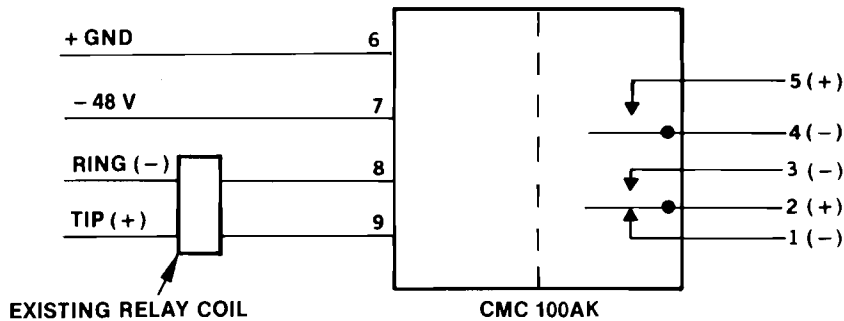
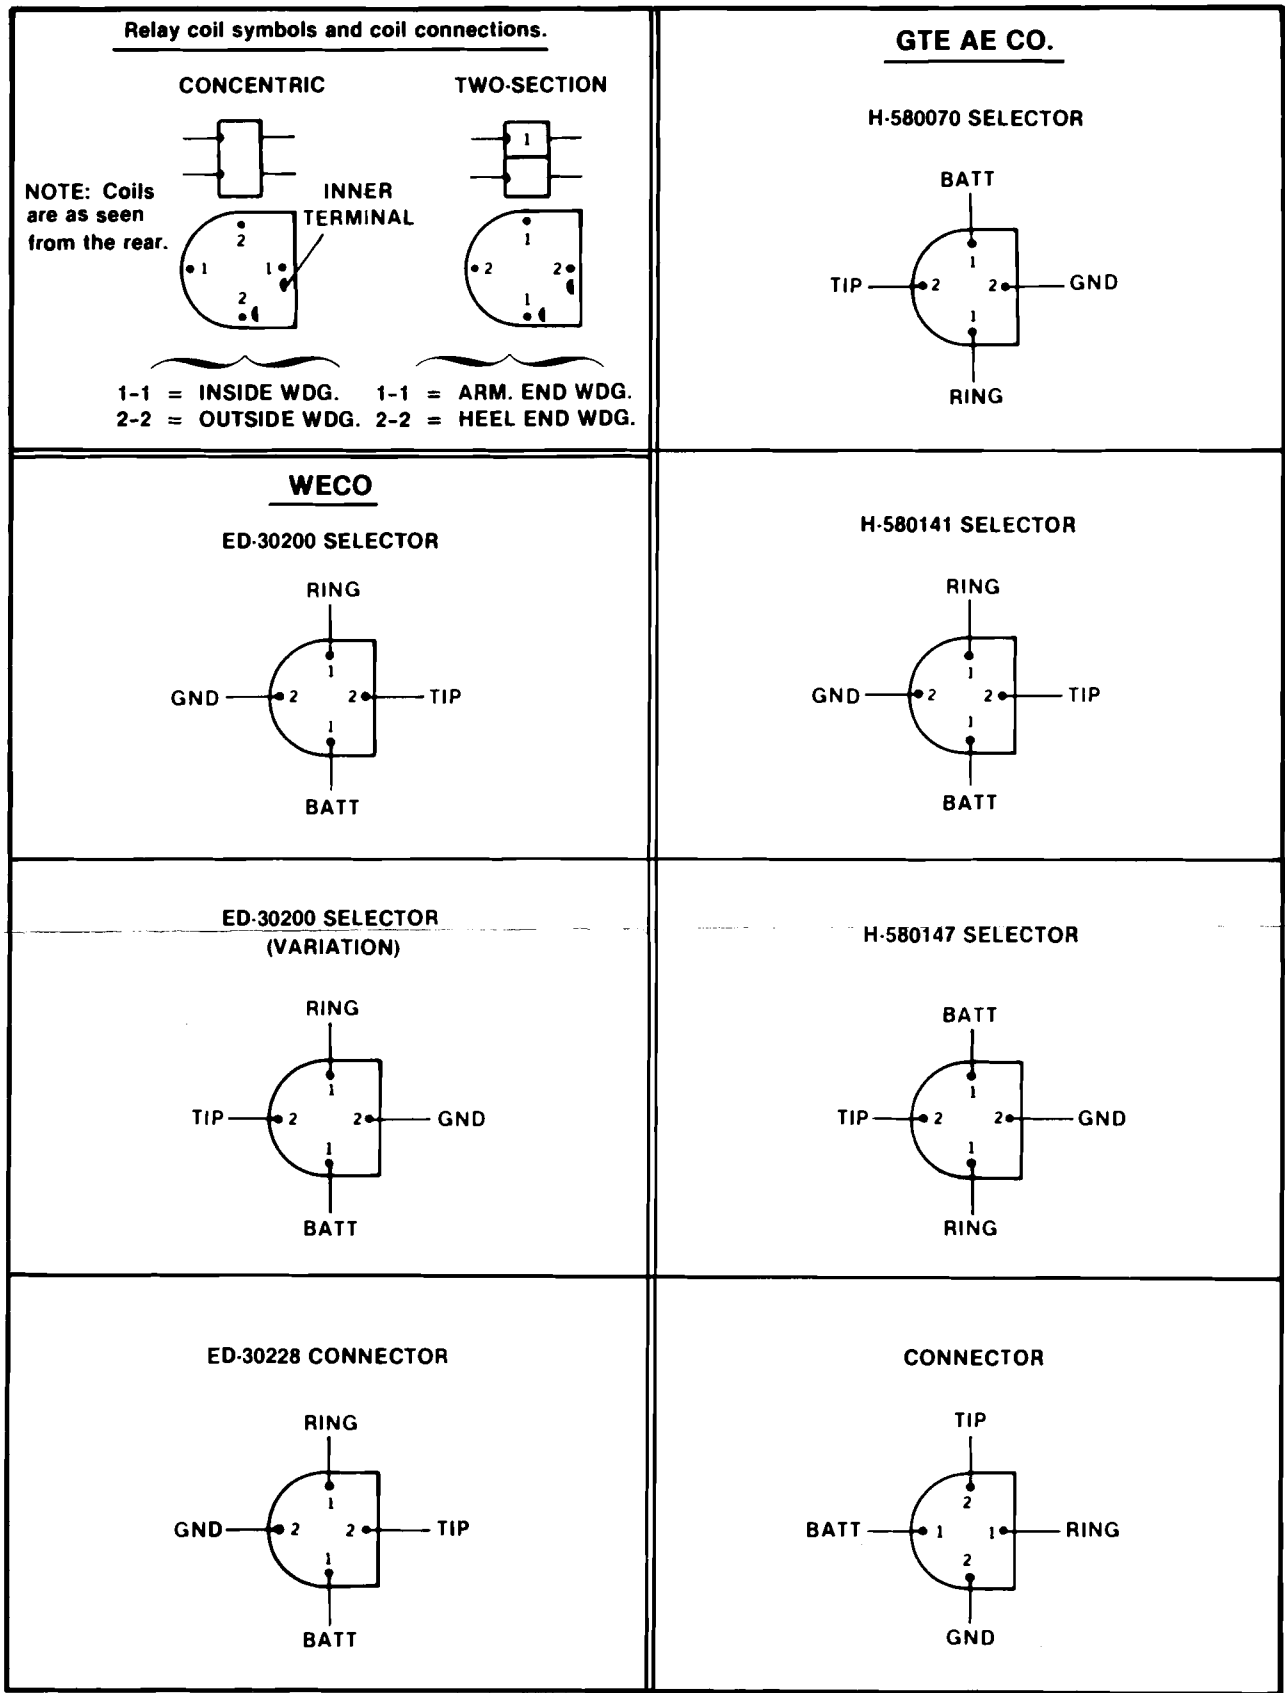

Figure 2 Connecting the CMC 100AK Solid-State Relay
Figure 3 Typical Selector/Connector "A" Relay Wiring.
- (5) Connect the Solid-State Relay coil wires as follows (see Figure 2):
- (6) Connect the Solid-State Relay "spring" wires as described in steps (7), (8) and (9).
CAUTION: *Terminals 2 and 5 MUST be connected to the positive (+) side of the load. Terminals 1, 3 and 4 MUST be connected to the negative (–) side of the load (see Figure 2).*
- (7) To replace a single FORM "A" (make) contact set, connect the Solid-State Relay spring wires as follows (see Figure 2).
- (a) Connect the wire(s) removed from the old relay make spring (2) to the Solid-State Relay terminal 3 or trace the removed wire(s) and run a new wire from the far end termination to the Solid-State Relay terminal 3.
- (b) Connect the wire(s) removed from the old relay moving spring (1) to the Solid-State Relay terminal 2 or trace the removed wire(s) and run a new wire from the far end termination to the Solid-State Relay terminal 2.
- (8) To replace a single FORM "B" (break) contact set, connect the Solid-State Relay spring wires as follows (see Figure 2).
- (a) Connect the wire(s) removed from the old relay break spring (1) to the Solid-State Relay terminal 1 or trace the removed wire(s) and run a new wire from the far end termination to the Solid-State Relay terminal 1.
- (b) Connect the wire(s) removed from the old relay moving spring (2) to the Solid-State Relay terminal 2 or trace the removed wire(s) and run a new wire from the far end termination to the Solid-State Relay terminal 2.
- (9) To replace a single FORM "C" (break-make) contact set, connect the Solid-State Relay spring wires as follows (see Figure 2).
- (c) Connect the wire(s) removed from the old relay make spring (3) to the Solid-State Relay terminal 3 or trace the removed wire(s) and run a new wire from the far end termination to the Solid-State Relay terminal 3.
- (d) Connect the wire(s) removed from the old FORM "A" moving spring (4) to the Solid-State Relay terminal 4 or trace the removed wire(s) and run a new wire from the far end termination to the Solid-State Relay terminal 4.
- (e) Connect the wire(s) removed from the old FORM "A" make spring (5) to the Solid-State Relay terminal 5 or trace the removed wire(s) and run a new wire from the far end termination to the Solid-State Relay terminal 5.
- (10) To replace a FORM "C" (break-make) and a FORM "A" (make) contact set, connect the Solid-State Relay spring wires as follows (see *Figure 2*).
- (a) Connect the wire(s) removed from the old FORM "C" break spring (1) to the Solid-State Relay terminal 1 or trace the removed wire(s) and run a new wire from the far end termination to the Solid-State Relay terminal 1.
- (b) Connect the wire(s) removed from the old FORM "C" moving spring (2) to the Solid-State Relay terminal 2 or trace the removed wire(s) and run a new wire from the far end termination to the Solid-State Relay terminal 2.
- (c) Connect the wire(s) removed from the old FORM "C" make spring (3) to the Solid-State Relay terminal 3 or trace the removed wire(s) and run a new wire from the far end termination to the Solid-State Relay terminal 3.
- (11) Wiring diagrams for some typical circuit relay coils are shown in *Figure 3*.
- (12) Install the back cover (if equipped) on the Selector/Connector and replace the switch in its shelf location.
- (13) Verify the switch pulsing with a hand-test telephone (CMC Trub-L-Shooter or equivalent).